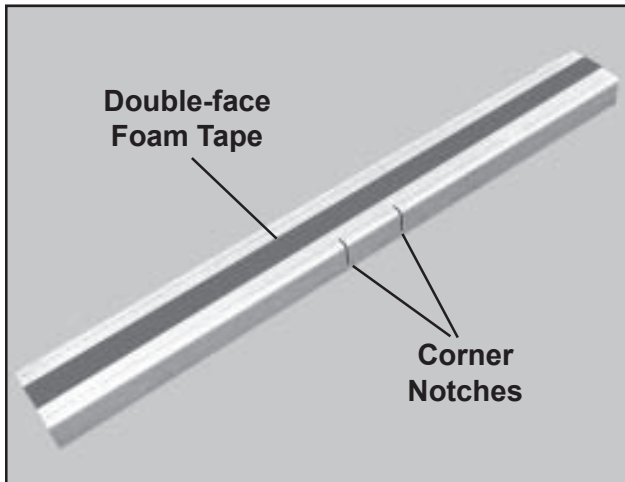

Figure 18. Applying Tape to the Rear Support for Tier 1 Cages
- a. **If this cage is for Tier 1** (bottom tier), apply double-face tape to the *back* of the rear support as shown in Figure 18.